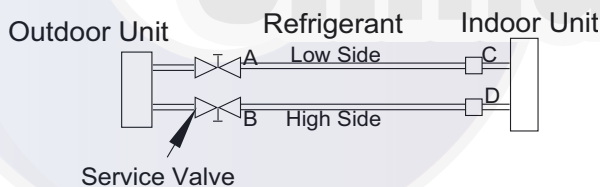

Fig. 27 – Service Valve
- 1 Completely tighten all flare nuts and connect manifold gage charge hose to a charge port of the low side service valve. (See Fig. 27.)